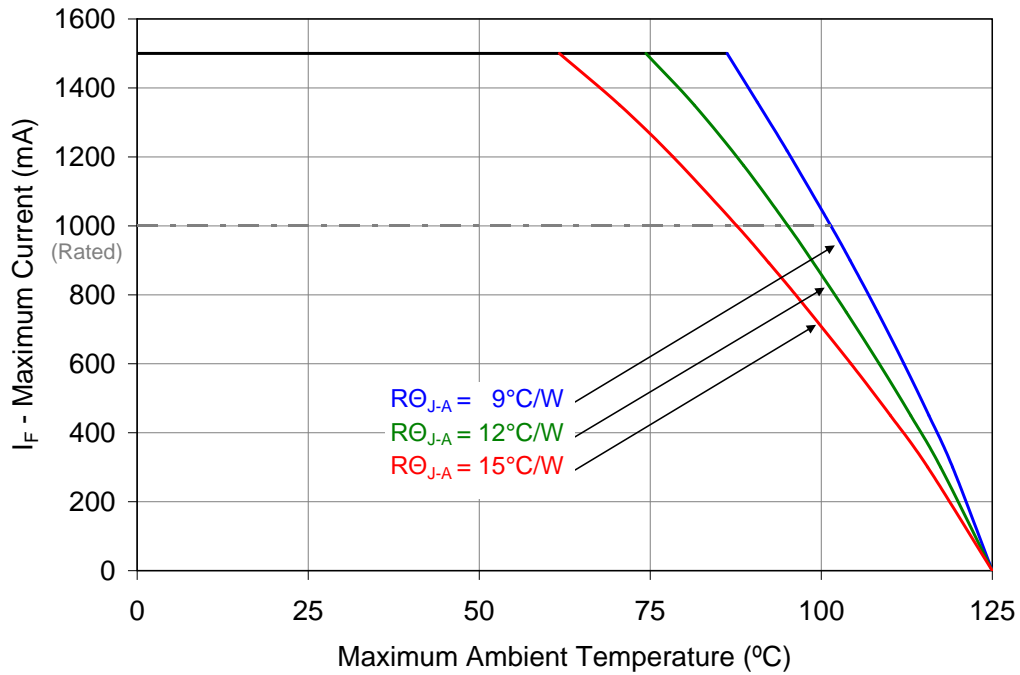

Figure 10: Maximum forward current vs. ambient temperature based on Tj(MAX) = 125°C.
- Maximum DC forward current is determined by the overall thermal resistance and ambient temperature. Follow the curves in Figure 10 for current derating.
Notes for Figure 10: